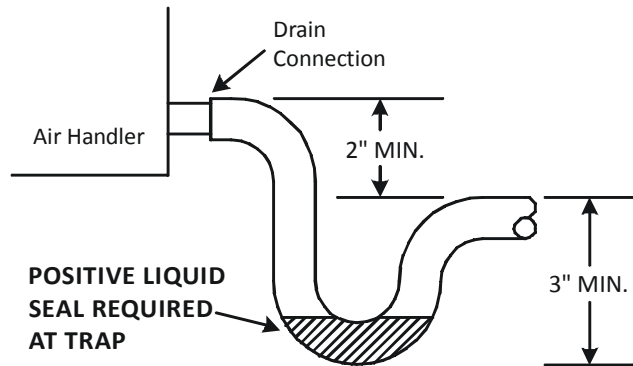

Figure 15
- Some installation may require a field fabricated or field supplied secondary drain pan under the coil cabinet enclosure. The installation must include a "P" style trap that is located as close as is practical to the evaporator coil. See Figure 15 for details of a typical condensate line "P" trap.